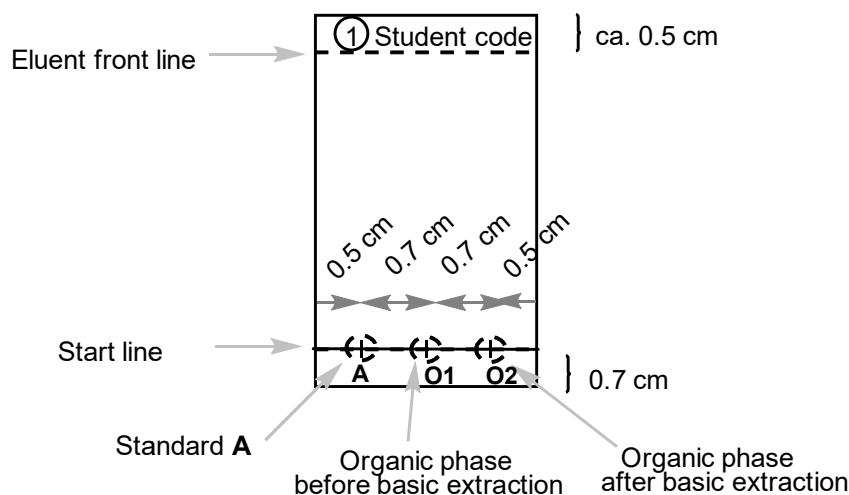

Figure 2. Instructions for the TLC plate preparation.
- Prepare your TLC plate. Check it before use. Unused damaged plates will be replaced upon request without penalty. Use a pencil to draw the start line and mark the positions for spotting the samples. Write number **1** in a circle and your student code on the top of the TLC plate as shown in Figure 2. Dissolve the given sample of 2-acetonaphthone in a vial (**Standard A**) in approximately 2 cm^3 of ethanol (use the entire volume of the glass Pasteur pipette). Mark three spot positions and label them **A**, **O1**, and **O2**. Spot $1 \mu\text{l}$ (one mark of the $5 \mu\text{l}$ capillary spotter) of standard **A** and the combined organic phase (**O1**). You will add spot **O2** later.